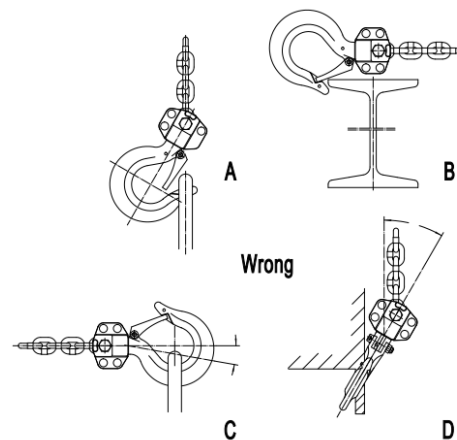

Figure 5
- Never load the hook in front of the safety latch (A, Figure 5).
- Never load the hook tip (B, Figure 5).
- Never load the hook off the centerline (C, Figure 5).
- Never load the hook sideways (D, Figure 5).